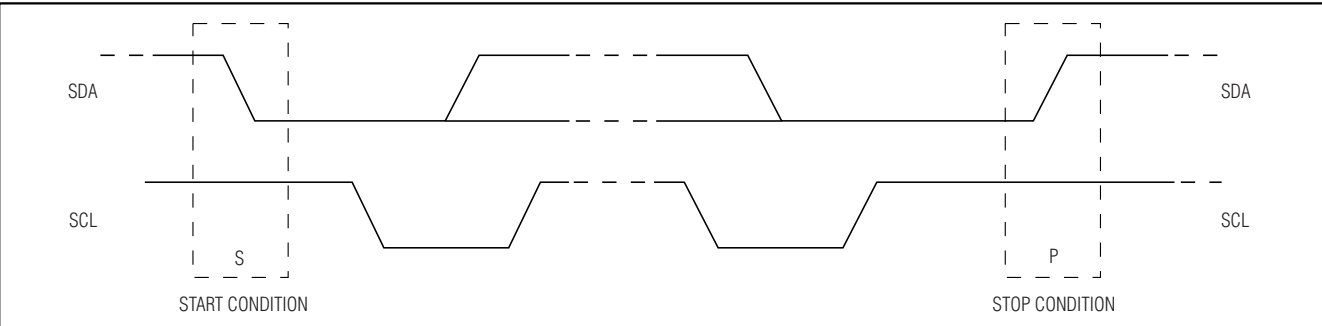

Figure 4. I²C Bus Start and Stop Conditions
Data transfer can only be initiated when the bus is not busy (both SDA and SCL are high). A high-to-low transition of SDA while SCL is high is defined as the Start (S) condition; low-to-high transition of the data line while SCL is high is defined as the Stop (P) condition (Figure 4).